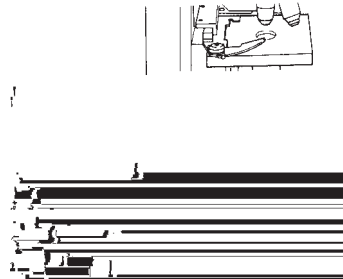

Fig. 4.1
- Turn on the light source of the microscope (Fig. 4.1).